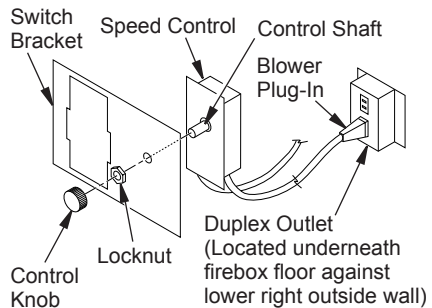

Figure 26 - Attaching Speed Control to Firebox
5. Mount speed control box to switch bracket by placing the plastic control shaft forward through the round opening in the switch bracket (see Figure 26).
- Mount the speed control box against the mounting plate provided in the lower fireplace cavity by placing the plastic control shaft forward through the round hole (see Figure 26, page 19).
- While supporting speed control, secure control shaft with lock nut by pushing and turning lock nut with pliers clockwise until it is tight against mounting plate. Place control knob provided on shaft (see Figure 26, page 19).